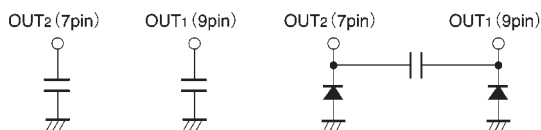

Fig.4
(15) To eliminate motor noise, connect a capacitor between OUT1 (pin 9) and GND and between OUT2 (pin 7) and GND. Alternatively, connect a capacitor between OUT1 and OUT2, and also a diode between OUT1 and GND and between OUT2 and GND (see Fig. 4).